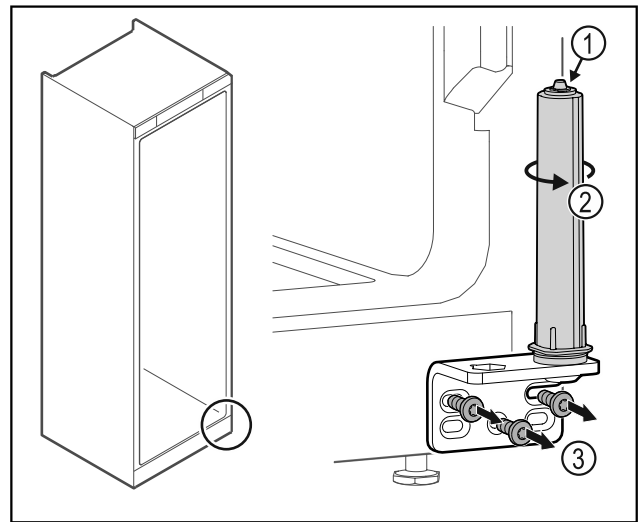

Fig. 38
- ▶ Do not disassemble the door closing system Fig. 38 (1).
- ▶ Turn the closing system Fig. 38 (2) until it clicks.
- ▶ Unscrew the hinge Fig. 38 (3).